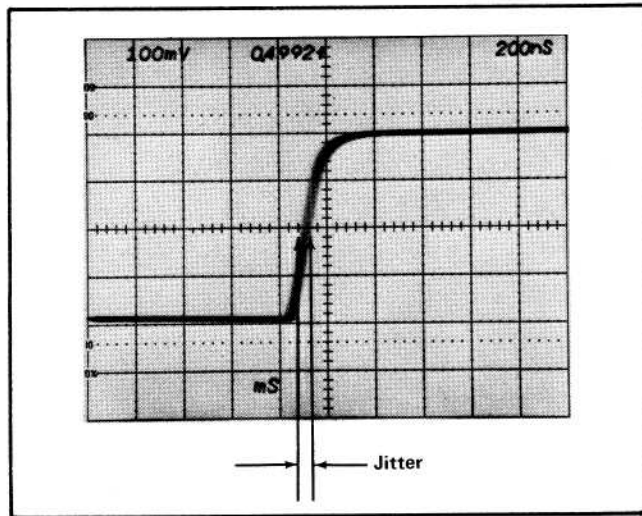

Fig. 1-9. Measuring pulse jitter.
**Example.** Assume the horizontal movement is 0.2 division at a 200-nanosecond sweep rate (see Fig. 1-9). The amount of pulse jitter is then  $0.2 \times 200$  nanoseconds = 40 nanoseconds.